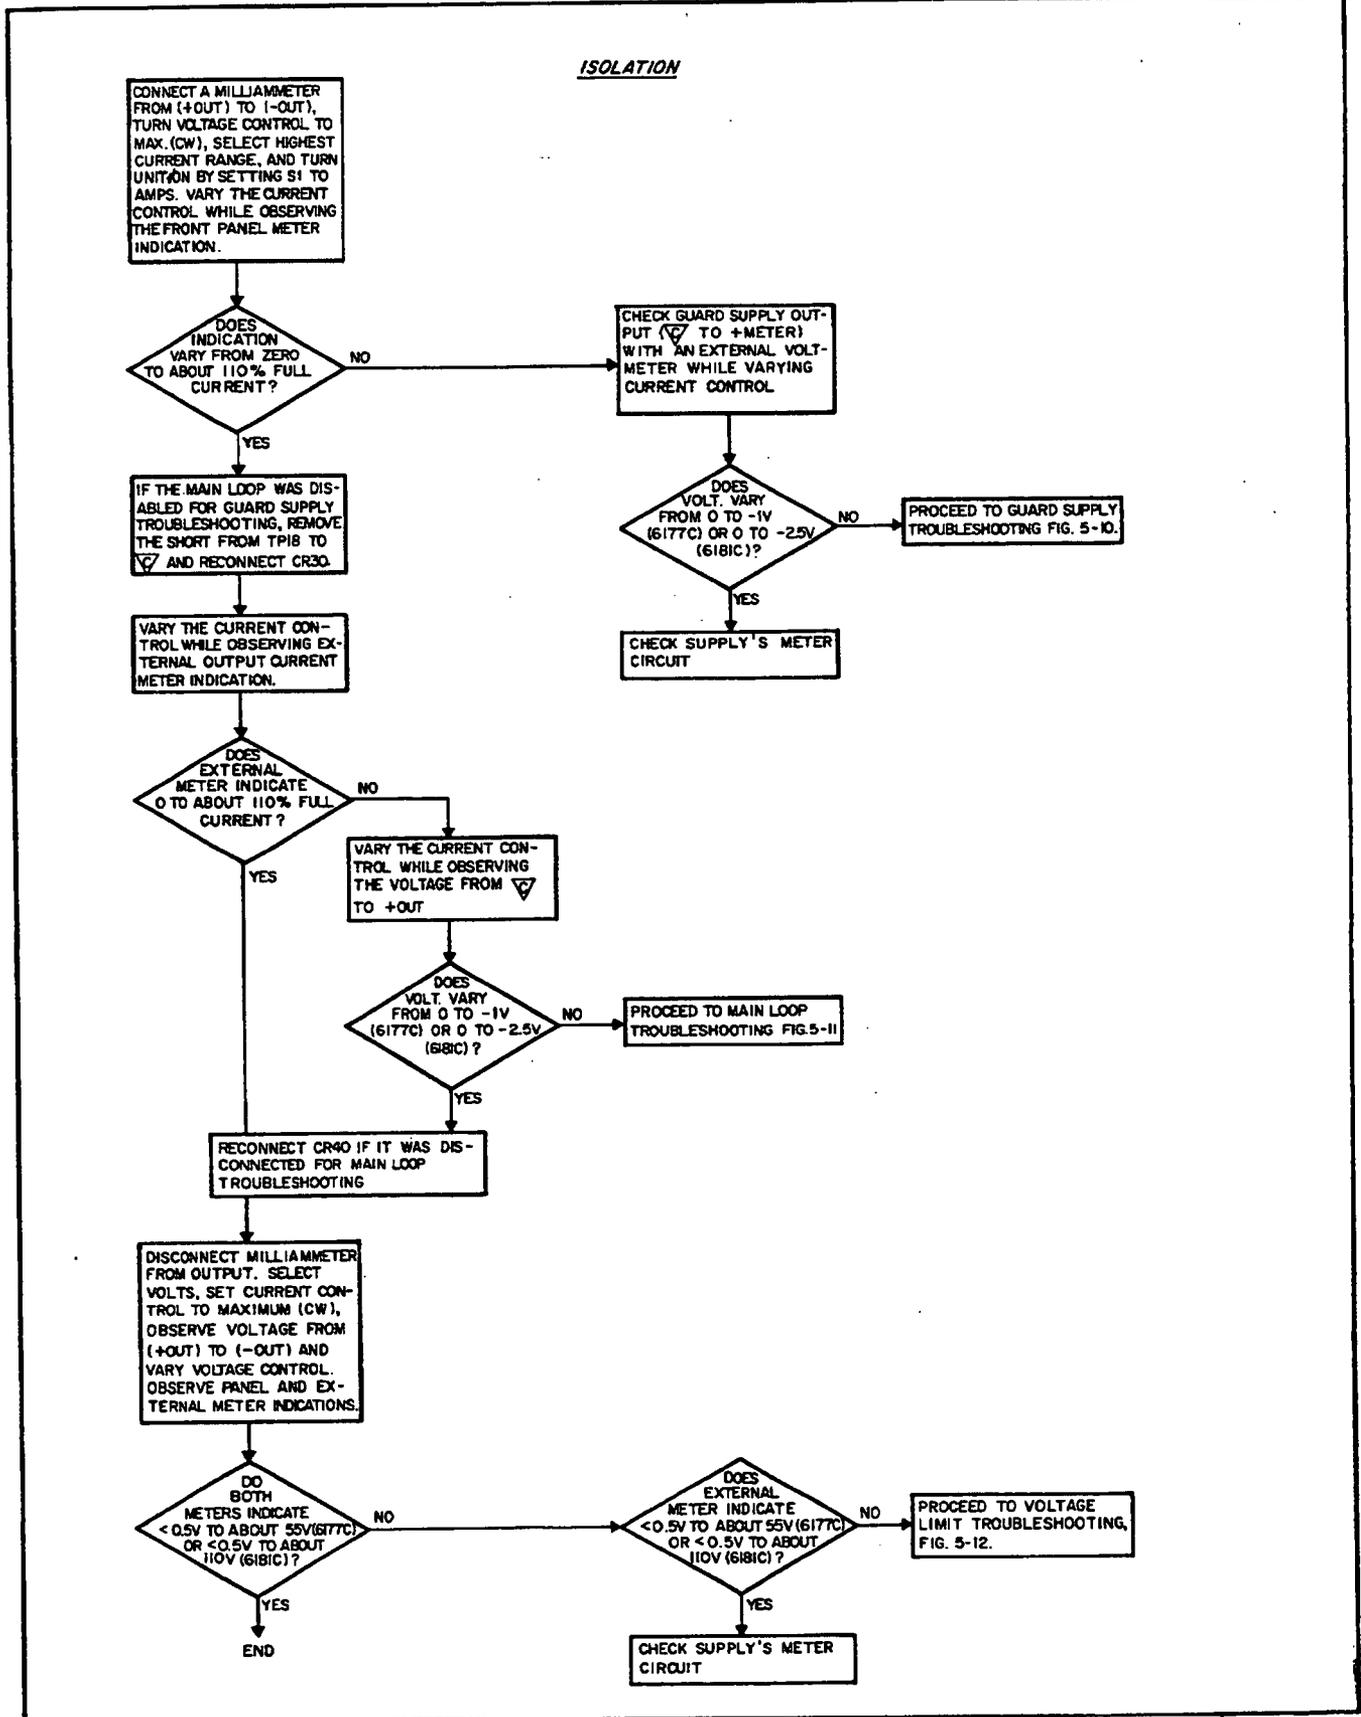
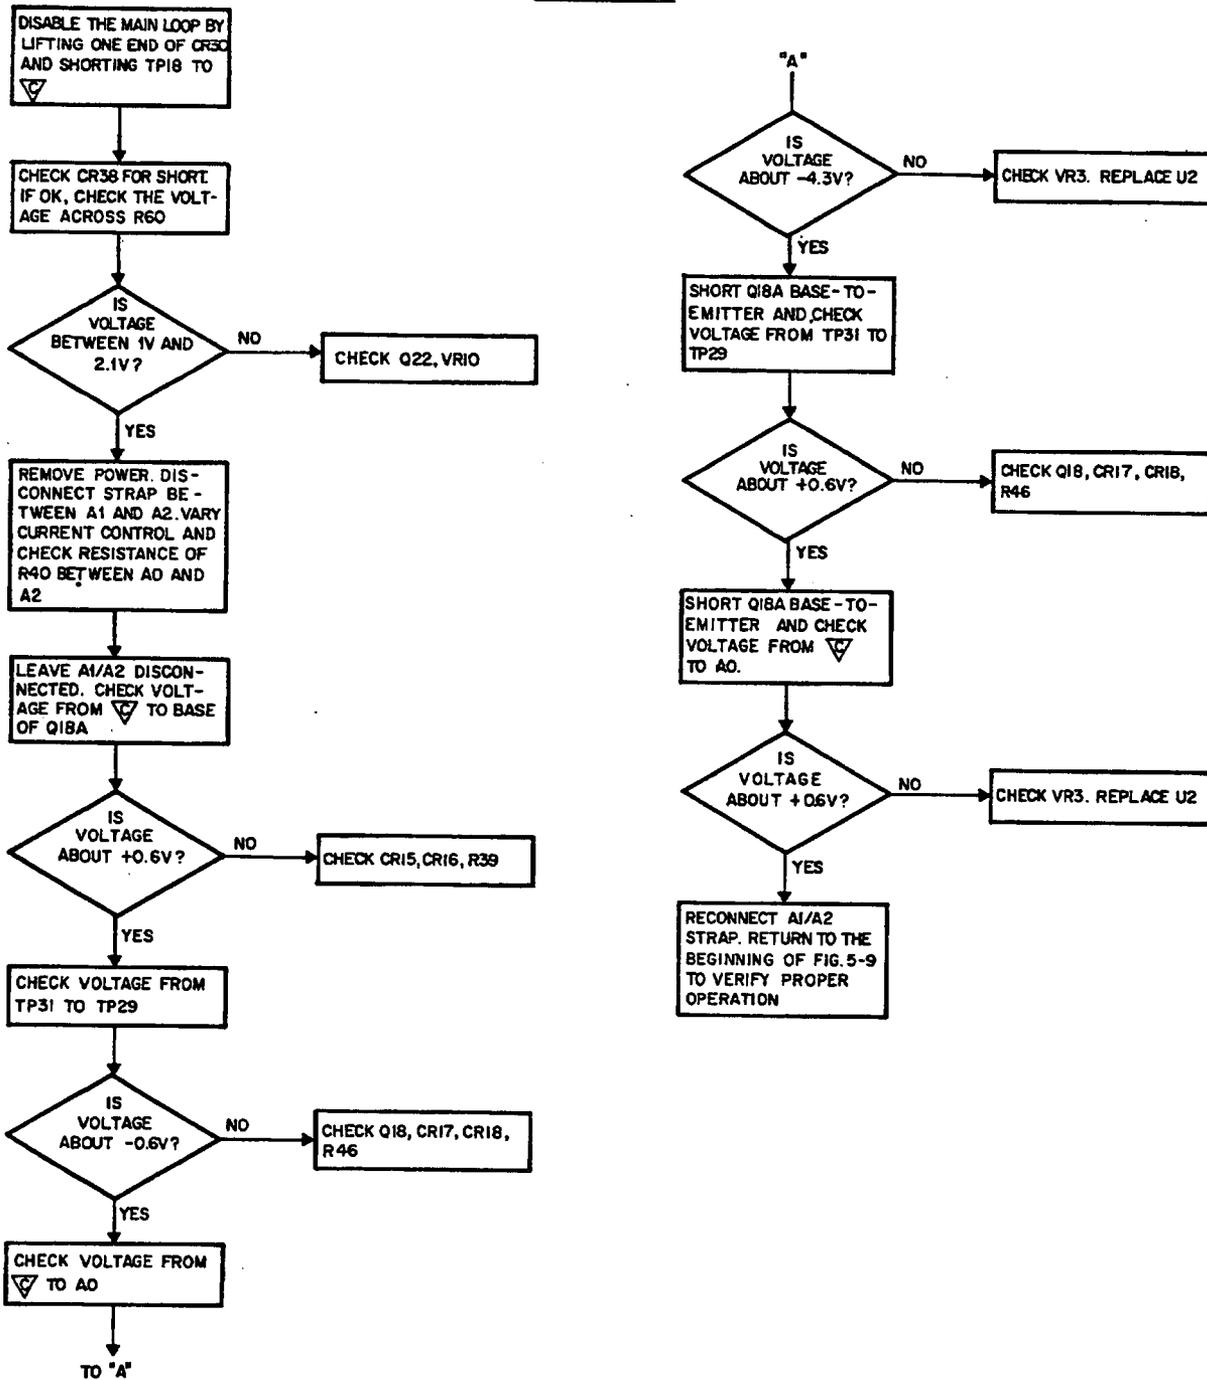

Figure 5-9. Trouble Isolation Procedure
Figure 5-10. Guard Supply Troubleshooting
d. Figure 5-9 is an overall trouble isolation procedure that briefly checks the supply's operation and helps to determine which of three general circuit areas is at fault. These areas are the guard supply, the main feedback loop (which includes the constant current comparator, the turn-on/turn-off control, the driver, and the series regulator), and the voltage limit circuits (including the isolation diodes, the voltage limit programming current source, and the bleed circuit). Because of the many possible interactions among these three circuit areas, it is common for a fault in one of them to hamper attempts to troubleshoot another. Follow the steps of Figure 5-9 exactly as given to isolate these circuits from each other. Figure 5-9 directs the reader to Figures 5-10, 5-11, and 5-12 as necessary to troubleshoot the three circuit areas in detail. Follow all steps in the order they are given.